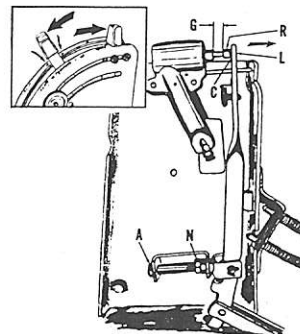

Fig. 281—Adjusting draft control linkage. Inset shows proper position of control levers on models without pressure control.
To adjust the draft control linkage, refer to Fig. 281 and proceed as follows: Move position control lever to "Constant Pumping" position and center the draft control lever between sector marks on quadrant as shown in inset. Block the draft response plunger (R) in fully extended neutral position by inserting the Massey-Ferguson special wedge (MFN-163) or other suitable wedge in gap (G) between plunger (R) and plunger guide. Apply a light (approximately 3 lb.) pull to end of vertical control lever (L) in direction indicated by arrow, loosen locknut (N) and turn adjusting bolt (A) in or out as required until clearance (C) between lever (L) and plunger (R) is 0.000-0.002. Lock the adjustment by tightening locknut (N).